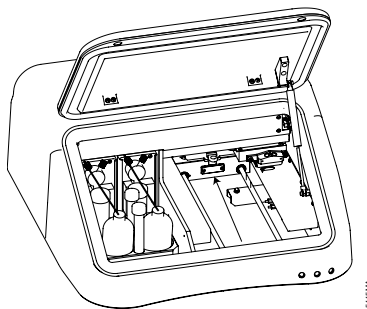

Figure 17. Push the tray from the Home position to the back of the luminometer.
2. Push the tray from the Home position to the back of the luminometer (Figure 17).
3. Push the sample tray to the back of the luminometer, exposing the two steel guide rails upon which the sample tray glides (Figure 17). Use a laboratory tissue and 70% ethanol to clean the guide rails.